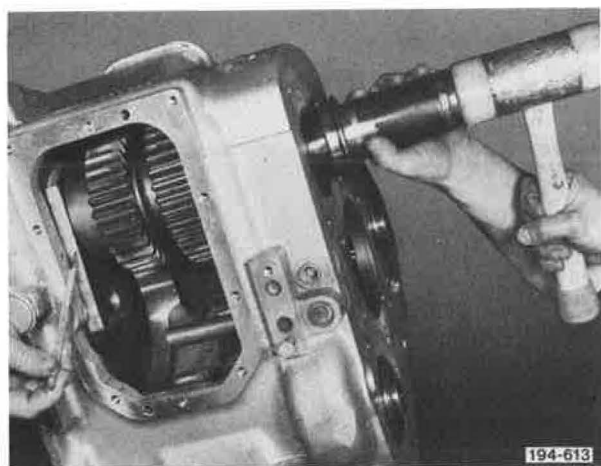

Figure 5-483. Installing Bearing
13. Place a block of metal at front end of rear countershaft, to provide a solid base, and install rear countershaft rear bearing using a suitable driving sleeve. Apply force to the inner race only. See Figure 5-483.